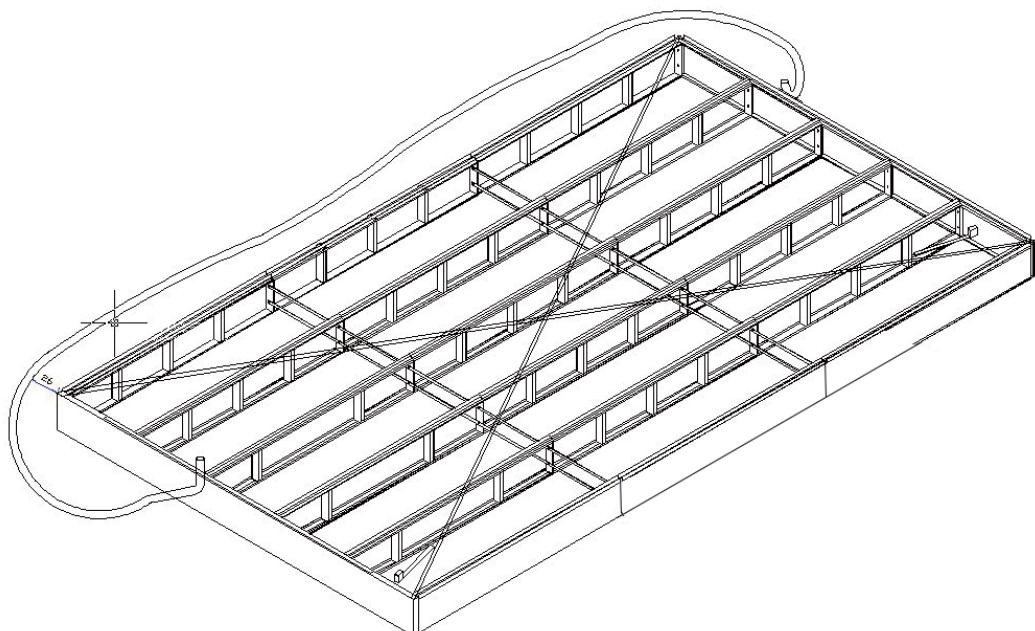

Fig. 2.5
2. Adjust the level of the connect point: find the highest point with the level measure apparatus, then elevate other point with something. Shown in Fig.2.5
3. Adjust the uprightness: adjust the side boards and middle bracket with beeline, and distribute the distant between the rows, so that we can put the grids easily. Shown in Fig.2.5.
4. Check that all the longitudinal pieces have been mounted perfectly perpendicular to the end heads, to do this measure the two diagonals between the corner of the anterior end head and the opposite corner of the anterior end head, if they show the same values we are certain that it is assembled correctly. and the error value should be less than 5mm (shown in Fig.2.5).
5. Installate the bottom of the heat-air generator: the air out mouth should be connect with the metal sides board. (shown in Fig.2.5)